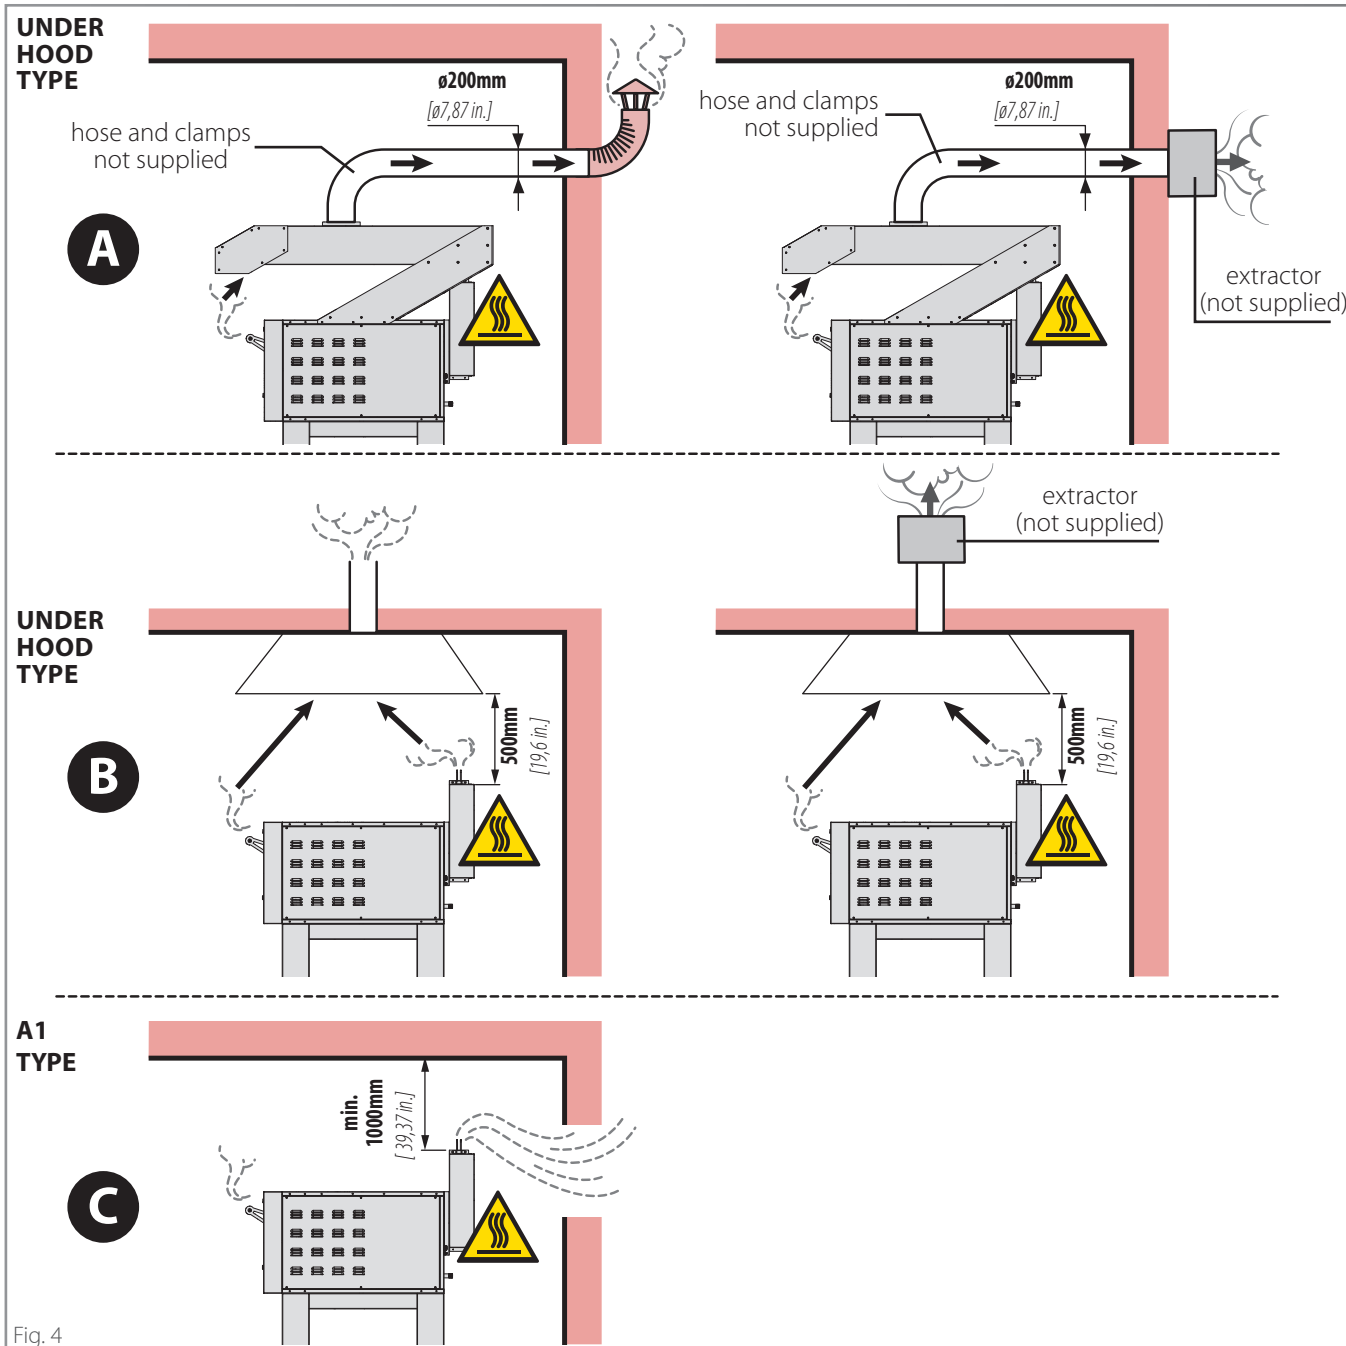

Fig. 4
► **Fig. 4** The oven is equipped with a smoke outlet located at the back for the evacuation of the vapours from the cooking chamber and the gases (you can find its exact position in the "Technical data" section starting on page 8).